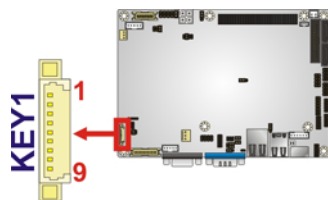

Figure 3-11: LPC Connector Location
- CN Location:** See **Figure 3-11**